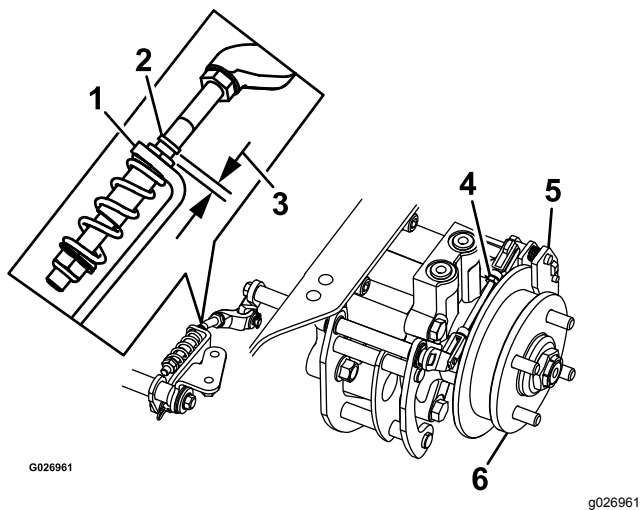

Figure 75
7. Check to see if there is a visible gap between the L-bracket and the linkage stop (Figure 75).